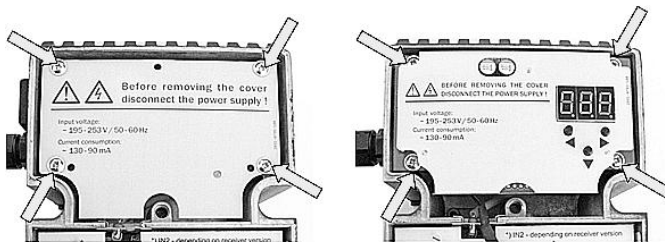

Fig. 8.3. Replacing the TMM 729 remote monitoring module - step 1.
- remove the four screws attaching the power unit enclosure or the TMM 729 remote monitoring module, depending on factory fitted options - see fig. 8.3 and 8.4,
- Fig. 8.3. Replacing the TMM 729 remote monitoring module - step 1.